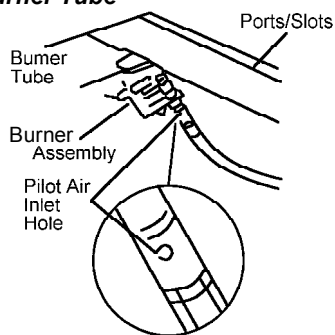

Figure 24-Pilot Inlet Air Hole
2. Inspect burner, pilot and primary air inlet holes on injector holder for dust and dirt (See Figure 24).